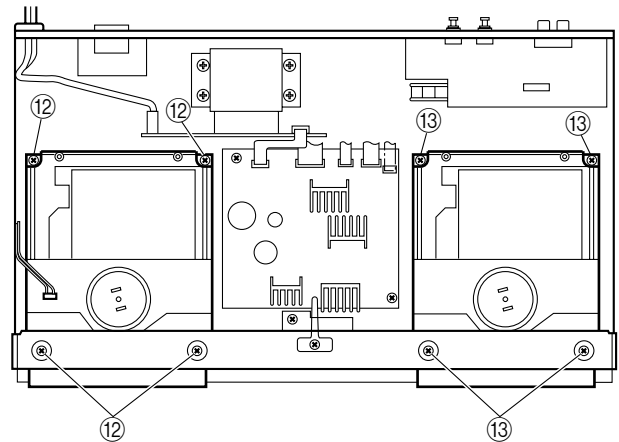

Fig. 6
- Remove 4 screws (12). (Fig. 6)
- Remove 4 screws (13). (Fig. 6)